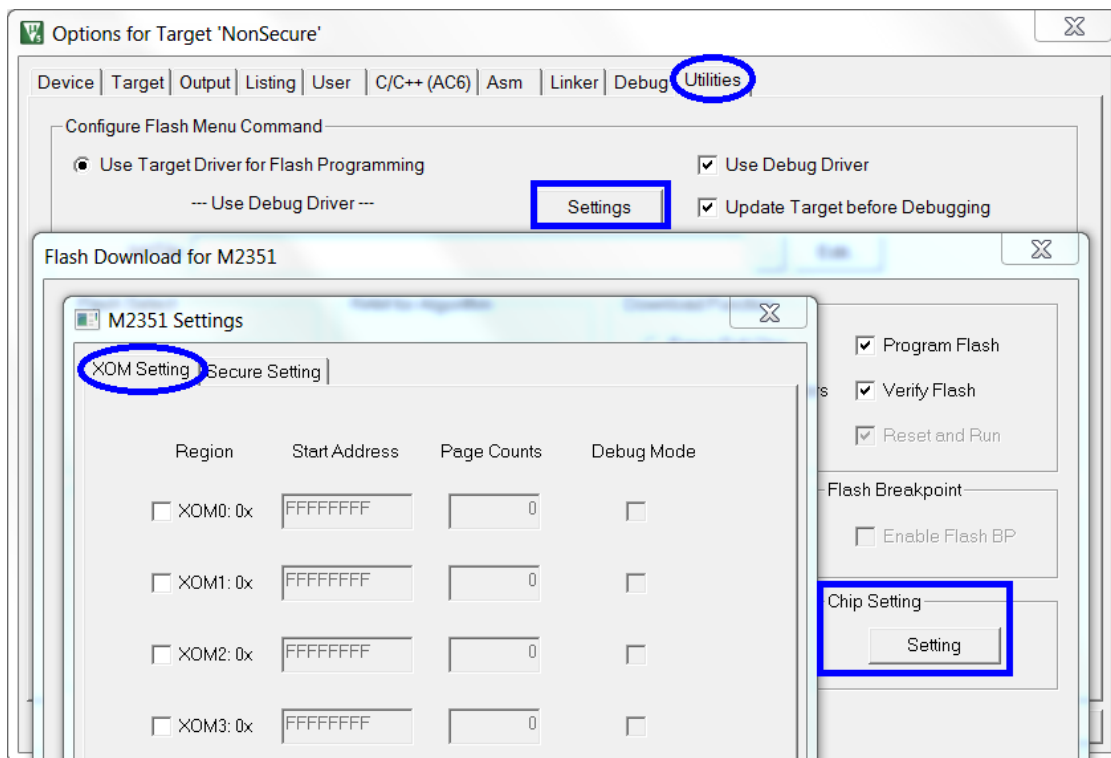

Figure 3-6 Configure XOM in Keil® MDK
1. Click [Options for Target – Utilities] and click [Settings] button, and Flash Download page will appear. Then click [Setting] button under Chip Setting to open the XOM Setting page, as shown in Figure 3-6.